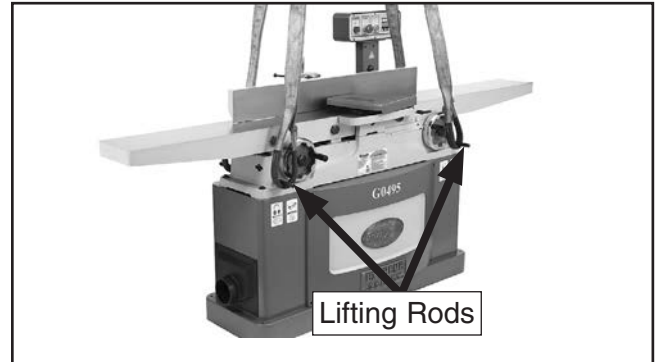

Figure 8. Model G0495X supported evenly by two lifting straps.
2. Wrap lifting straps around lifting rods, as shown in **Figure 8**.